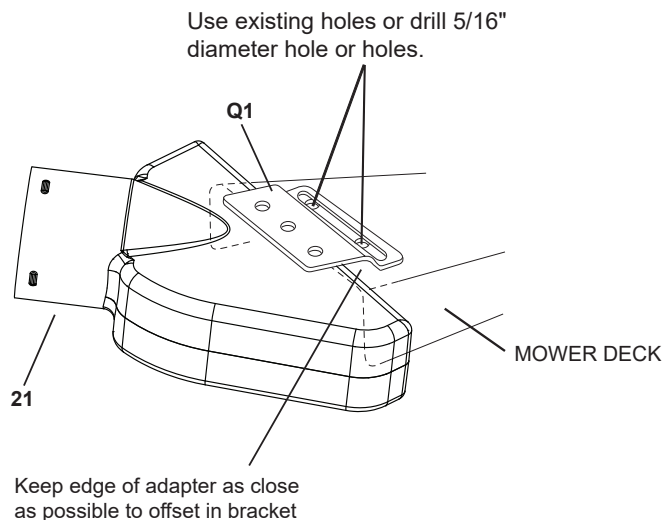

FIGURE 25
- Holding the adapter bracket (Q1) and the deck adapter (21) together, position the deck adapter on the mower deck. Keeping the edge of deck adapter as close as possible to the offset in the adapter bracket, see if the slot in the adapter bracket can be aligned with one or two of the deflector holes in your mower deck's discharge opening. If the bracket can not be located correctly using existing holes, it will be necessary to drill one or two 5/16" diameter holes in the deck. See figure 25.